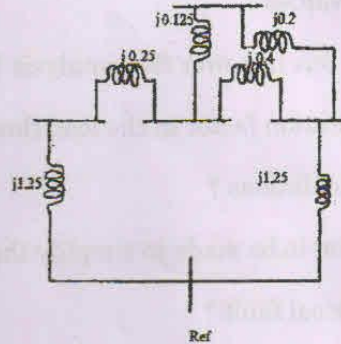

Figure 2
b) Determine Z-bus for system whose reactance diagram is shown in given figure 2 where the impedance is given in p.u. preserve all the nodes. (13)